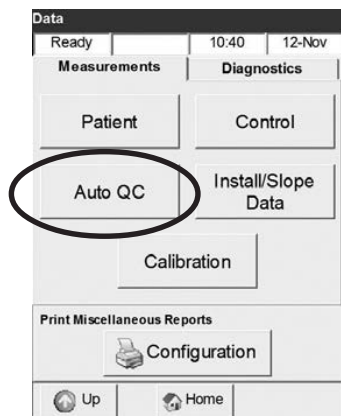

Fig. 4-32 Select Auto QC
2. Press **<Auto QC>** (Fig. 4-32).
10. Press **<Install/Slope Data>** (Fig. 4-32) to view data from pack and cassette installations. The installation data will apply the pack limits set by OPTI Medical. The **<Install/Slope Data>** menu will also allow you to view the slope check data obtained.